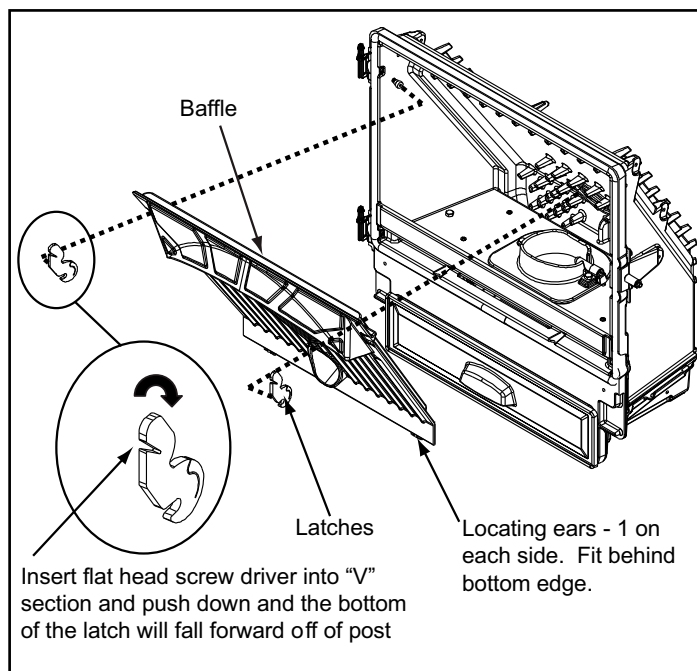

Figure 36.2
- Remove baffle by placing a flat head screw driver into the slot of the latches located in the upper corners and push down. The bottom of the latch will fall forward off of the post. Lift the baffle up and then out toward you. **Figure 36.2.**